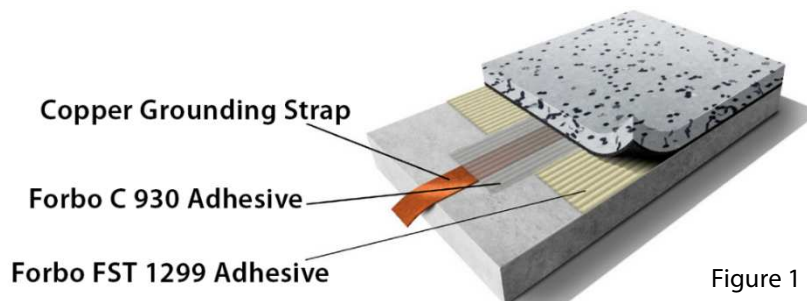

Figure 1
- Apply a 4" (10.16 cm) band of Forbo C 930 adhesive over the copper grounding strap with a 1/16" x 1/16" x 1/16" square notch trowel according to the image below. **DO NOT allow Forbo C 930 adhesive to dry** before the material is installed. See Figure 1.